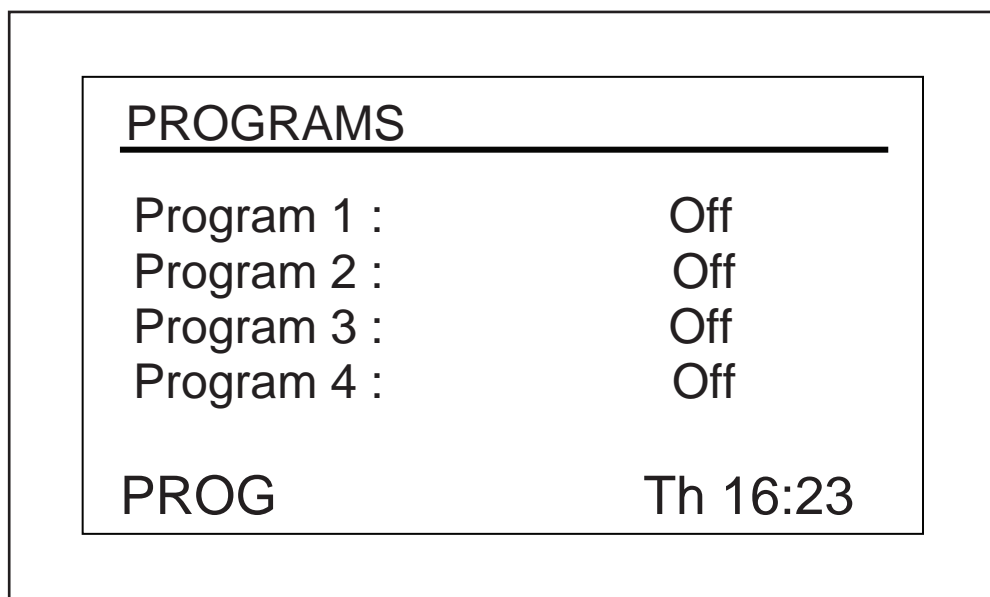

Fig. 9-10: Programs screen
To enter the programming mode, use the control knob to select the *PROG* screen (see Fig. 9-10 on p. 57). At this point, you can *Run* a program, *Edit* a program, generate a *New* program or turn a program *Off*. *Off* is the default mode.
1. Use the control knob to highlight the mode of Program 1 (in our sample screen, (see Fig. 9-10 on p. 57), it is *Off*), then click the knob in.